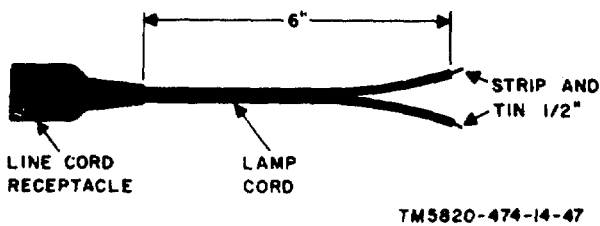

Figure 47. Test cable No. 2, construction details.
b. Test Cable No. 2 (fig. 47). Test cable No. 2 is used to connect the secondary of the step-up transformer to the ac input power cable when either power supply is tested. One cable is required.